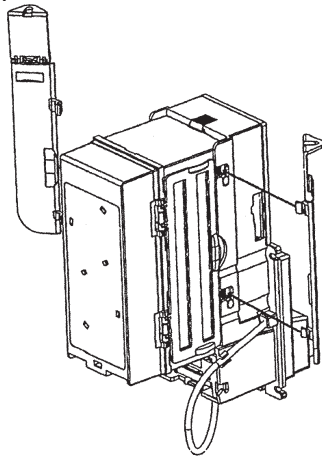
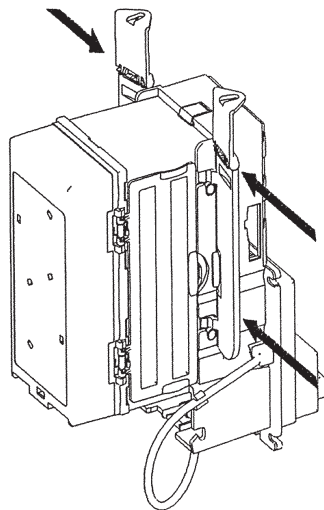

Figure 2
Figure 3
Step 1: Insert the left and right hasp into the openings located on the side of the bill acceptor magazine (See Figure 2). Insert in slots, with the locking hasps in an open position (See Figure 3). Push the hasp into the opening until the hasps snap into place.